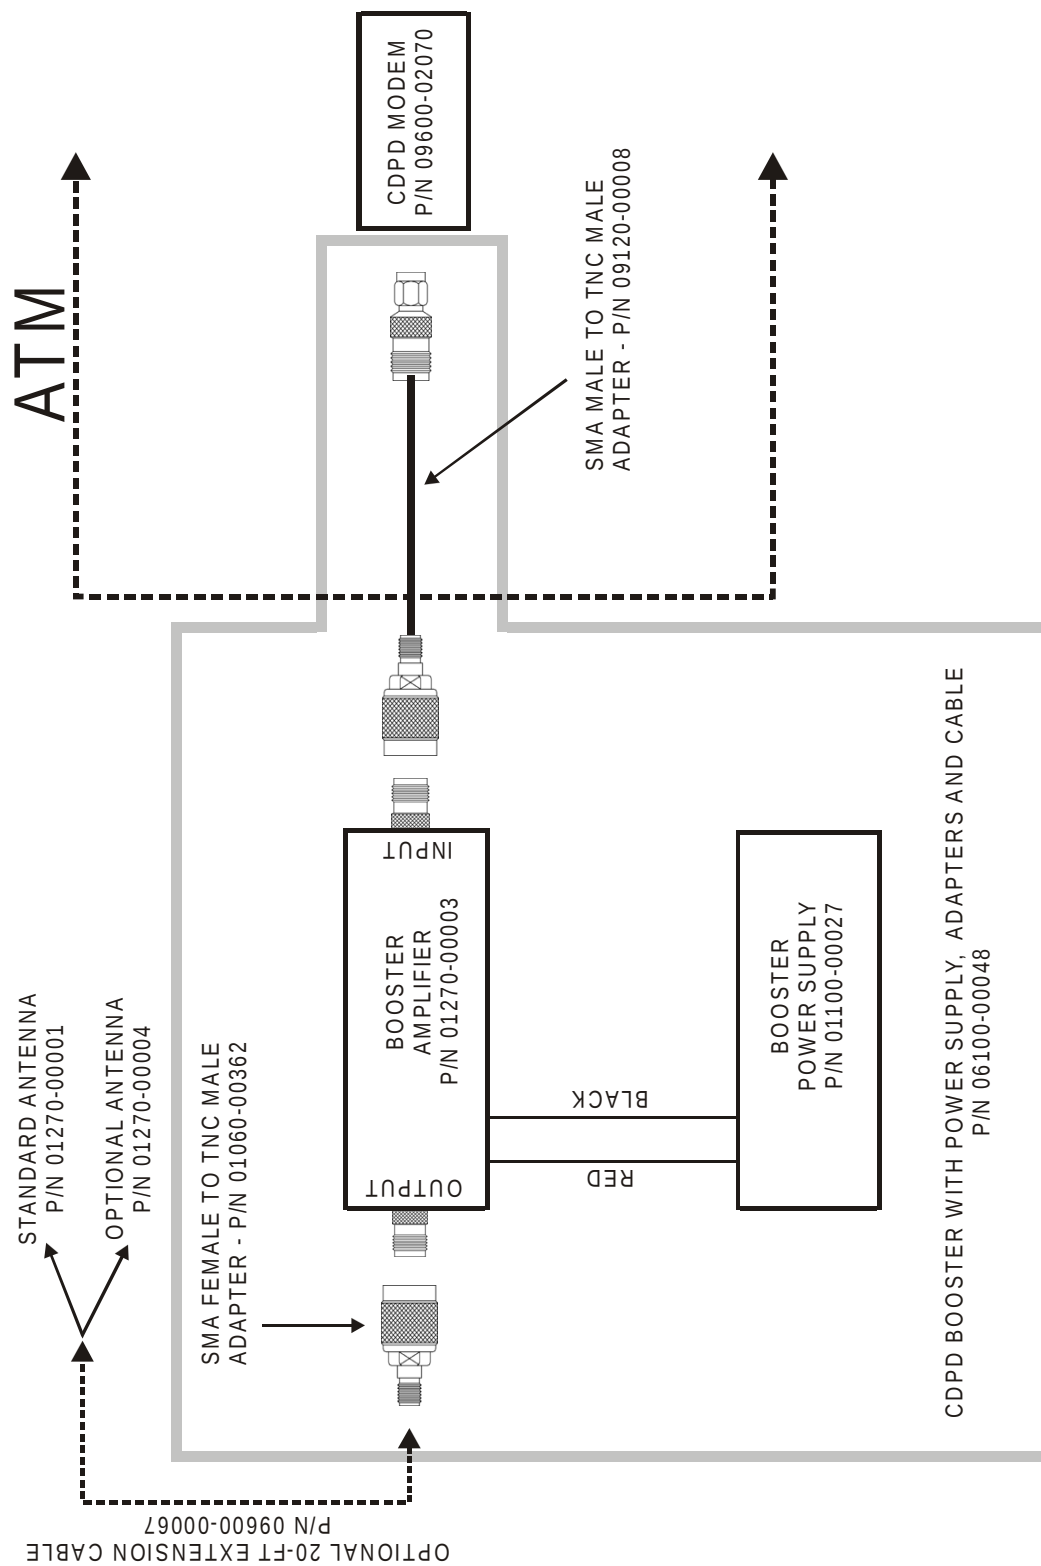

Figure 1. CDPD Booster Kit Interconnect.
2. If installed, disconnect the existing antenna cable from the CDPD Modem PCB (PN 09600-02070). Connect the SMA end of the SMA Male-to-TNC Male adaptor cable to the antenna jack on the CDPD Modem PCB. See Figure 1, CDPD Booster Kit Interconnect, which shows the cabling connections.